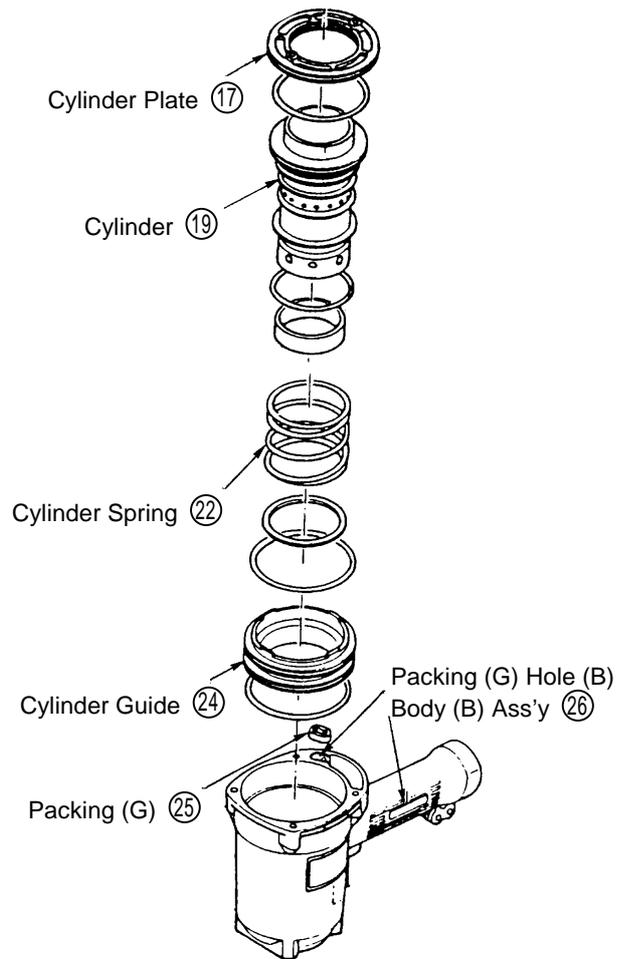
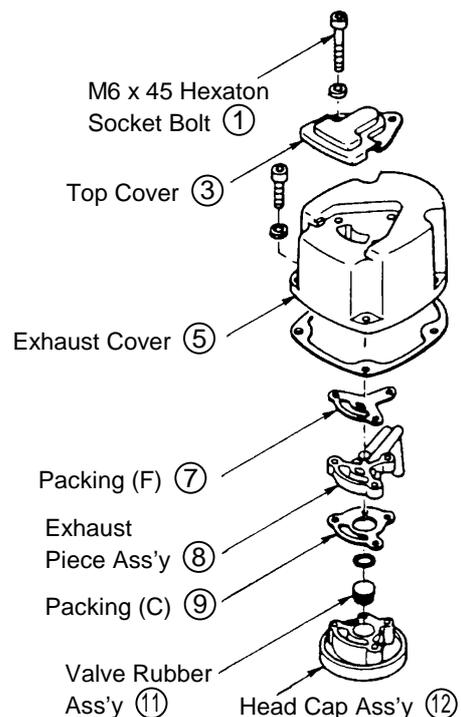

Fig. 11 Main body output disassembly
Fig. 12 Disassembly of main body, upper part:
The Cylinder (19), Cylinder Spring (22), and other components which constitute the Output System (see Fig. 11) can then be removed.
- As it should be difficult to remove the Cylinder (19), first remove the Tail Cover (38) as described in section 1-1-(1), and push the Cylinder upwards and out from below.
- Ensure that Packing (G) (25) is properly fitted to the shape of its matching hole in the Body (B) Ass'y (26), properly aligned with the assembly as shown in Fig. 11, and properly contacts the base of the Exhaust Piece Ass'y (8) (see Fig. 12).
(3) Head Cap Ass'y (12) Exhaust Piece Ass'y (8), and Related Parts:
- Remove the Exhaust Cover (5) as described in section 1-1-(2).
- Loosen the three M6 x 45 Hexagon Socket Hd. Bolts (1) and, as illustrated in Fig. 12, remove the Head Cap Ass'y (12) Valve Rubber Ass'y (11), Exhaust Piece Ass'y (8), Packing (C) (9), and Packing (F) (7).